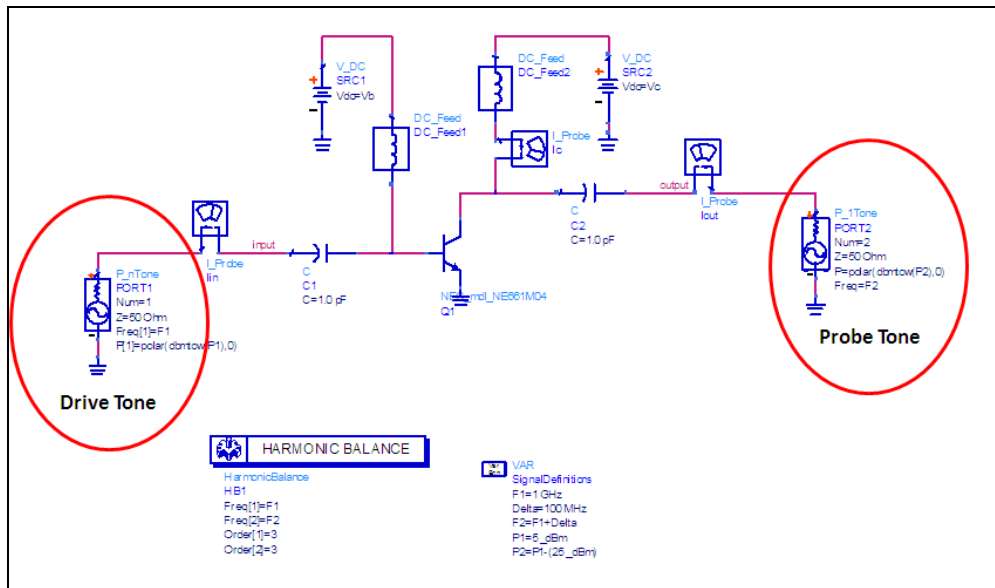
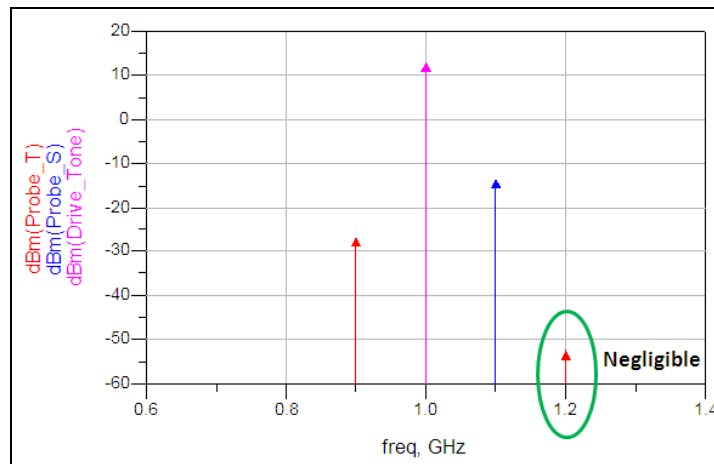

Figure 5: Hot-S22 simulation setup
Figure 6: Hot-S22 Simulation. Drive tone is shown in Magenta, the Probe tone is shown in blue and the intermodulation product is shown in red.
By now we should be able to appreciate the motivation for having the Hot- S_{22} measurement. However, there is one significant drawback of Hot- S_{22} . Before addressing that, what do we understand about the Third Order Intermodulation Product (TOI)? Amplifiers in the presence of 2 tones would generate third order intermodulation products. These are the $2f_2 - f_1$ and $2f_1 - f_2$ products. In Hot- S_{22} , we are also subjecting the power amplifier to two tones. The only difference is that the magnitude of both tones is not equal. To illustrate this, the Hot- S_{22} simulation setup for the NE661M04 is shown in Figure 5 with the simulated result in Figure 6.
b) As discussed, we need to take into account the tone due to the intermodulation product of the Drive tone and the Probe tone. In this case, we only measure the power of the significant intermodulation product which falls adjacent to the Drive tone as the intermodulation product adjacent to the Probe tone is negligible (see Figure 6). The measured and reflected power at the frequency of this intermodulation product is compared to the original Probe tone power and denoted as **XT**. It is common to give the notation $XS_p_m_q_n$ where